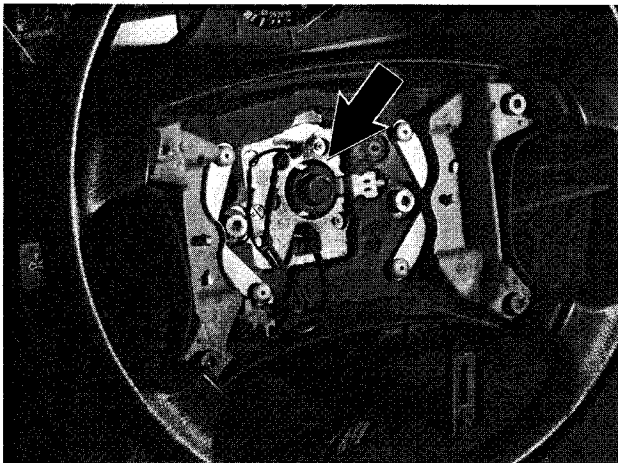

Fig. 1. Steering wheel center bolt (arrow).
- Remove steering wheel center bolt. Lightly punch mark or scribe position of steering wheel to steering column shaft. See Fig. 1.